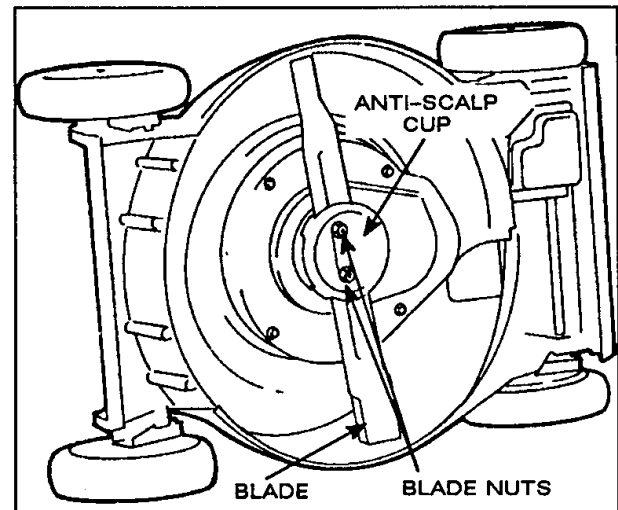

Figure 20
3. Tip mower on its right side (Fig. 20).
5. REMOVING BLADE—Grasp end of blade using a rag or thickly padded glove. Remove blade nuts, anti-scalp cup, blade, blade spacer, and rotating screen (Figs. 20 & 22).